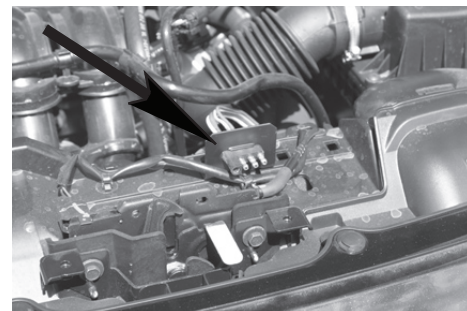

Figure 7
12. Inside engine compartment route 4-Flat to location near front of vehicle shown in **Figure 7**.